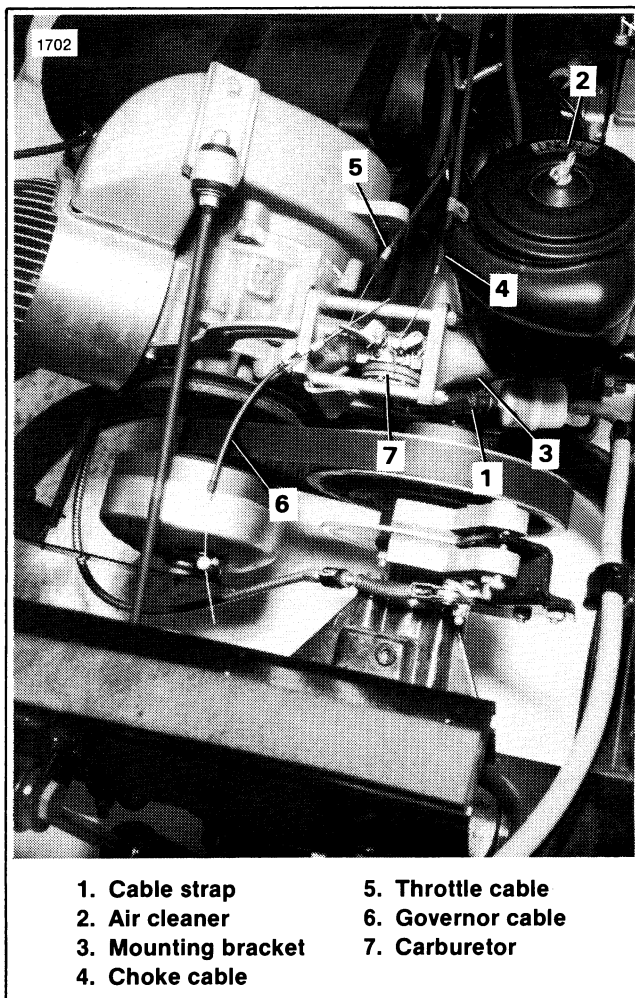

Figure 6-9. Air Cleaner/Carburetor Mounting
3. See Figure 6-9. Remove the air cleaner and mounting bracket. Disconnect the throttle, choke and governor cables.
4. See Figure 6-9. Remove the nuts, spacers and carburetor/manifold assembly.